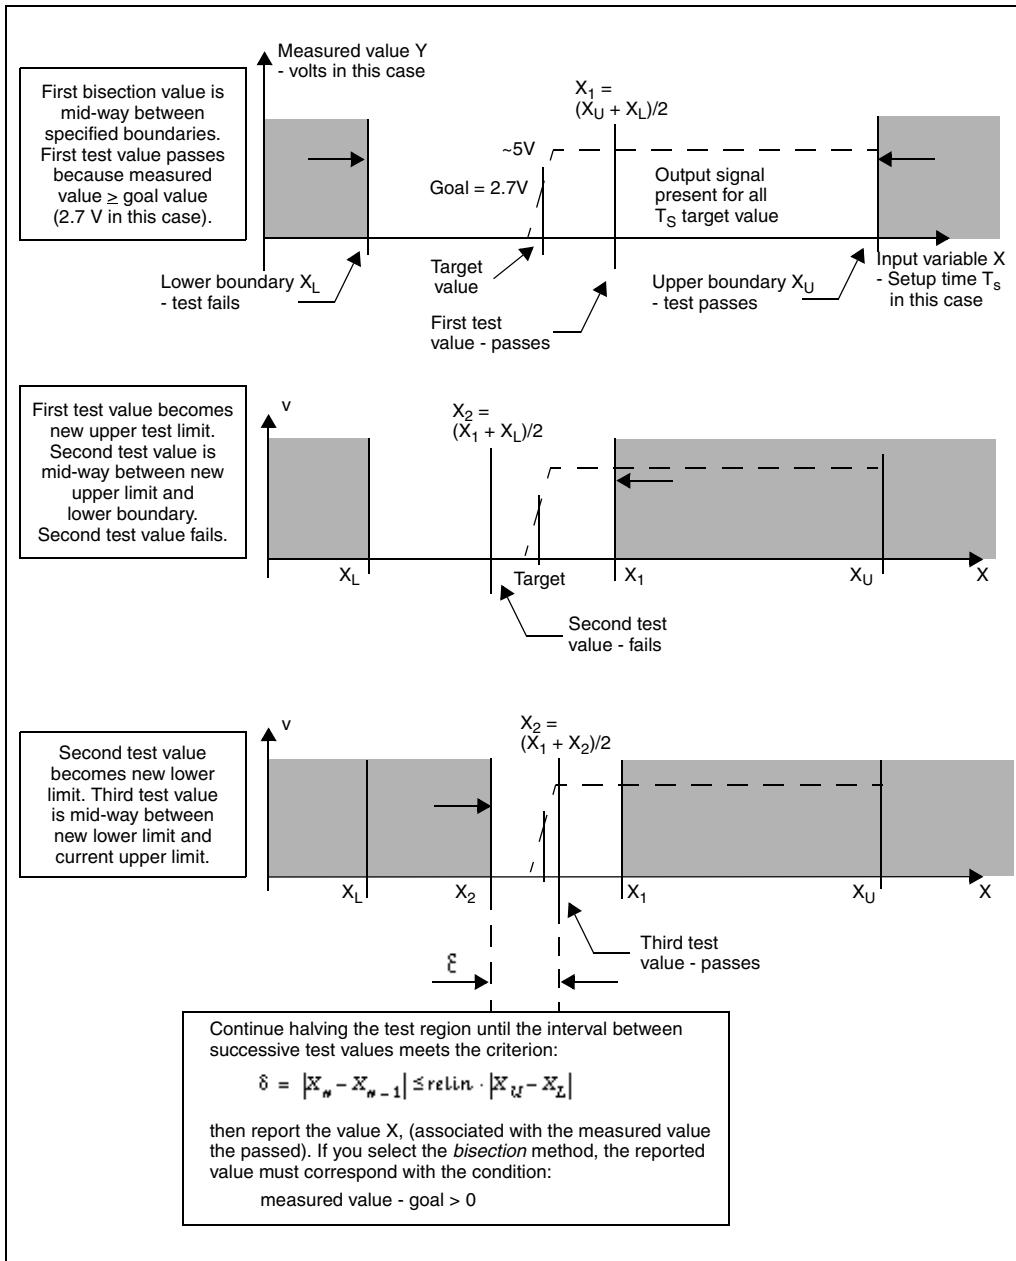
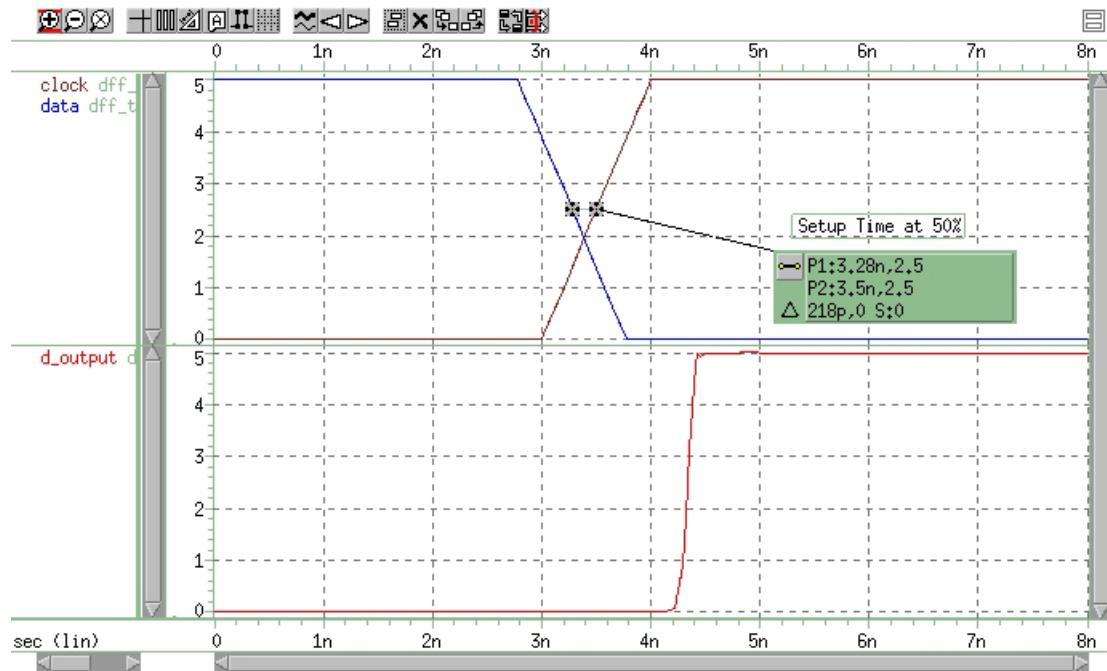

Figure 180 Bisection Example for Three Iterations
Figure 181 Transition at Minimum Setup Time
5. To start the binary search you specify the lower and upper boundaries. The program tests the point midway between the lower and upper boundaries (see Figure 180 on page 908).
Figure 180 on page 908 and Figure 181 on page 909 show the results of this demo. HSPICE does not directly optimize the setup time, but extracts it from its relationship with the `DelayTime` parameter (the time before the data signal), which is the parameter to optimize.
The upper plot in Figure 181 on page 909 shows the relationship between the clock and the data pulses that determine the setup time. The bottom plot is the output transition.